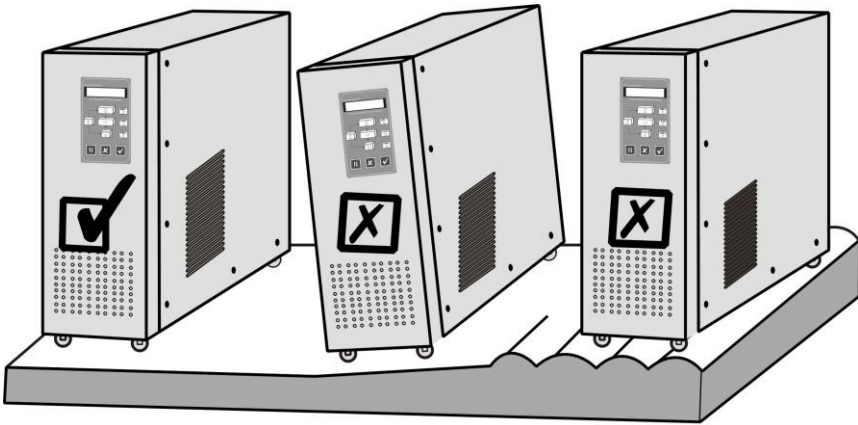

Figure 4, choice of placement position
1. Do not place the UPS on the slope or unevenly. (Figure 4)
4. Verify that the UPS is in the correct position. (Figure 4 to 10)